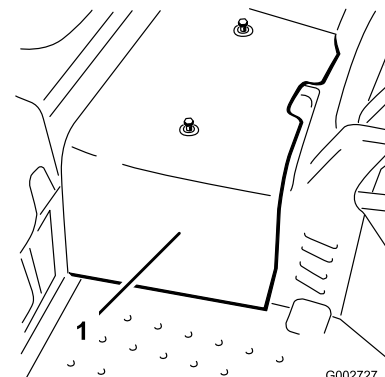

Figure 41
2. Remove the 2 screws securing the center shroud to the machine and remove the shroud (Figure 41).